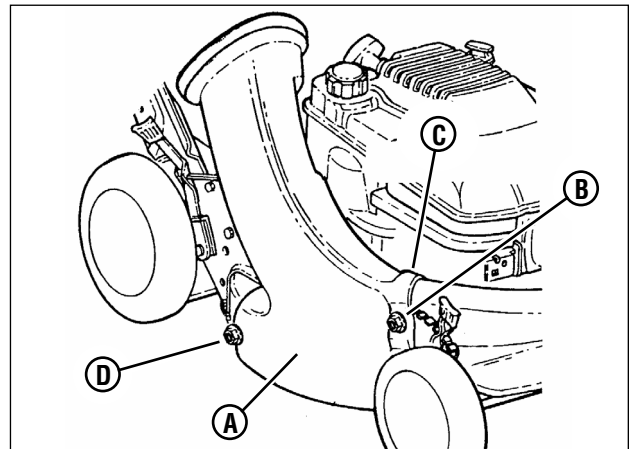

Figure 11: Installing the grass bag adapter
2. Install the adapter (**A, Figure 11**) to the deck in place of the recycling cover, making sure that: